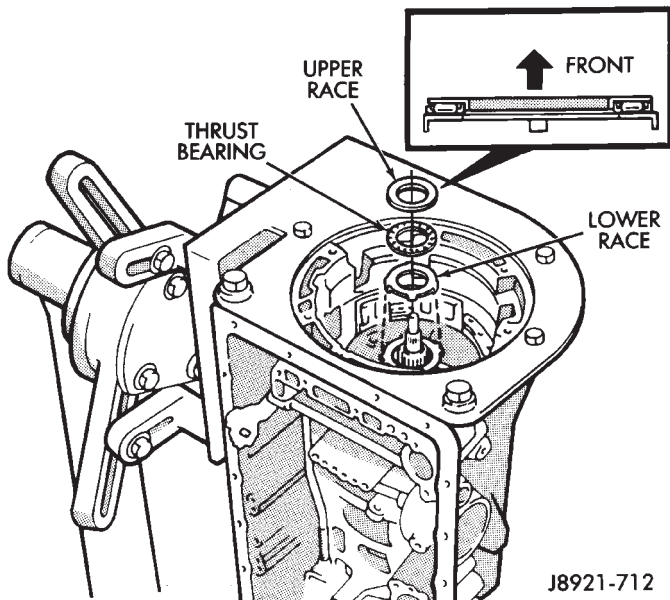

Fig. 164 Installing Overdrive Support Thrust Bearing And Races
(63) Coat overdrive lower race, thrust bearing and upper race with petroleum jelly and install them in overdrive support (Fig. 164). Be sure races and bearing are assembled and installed as shown.